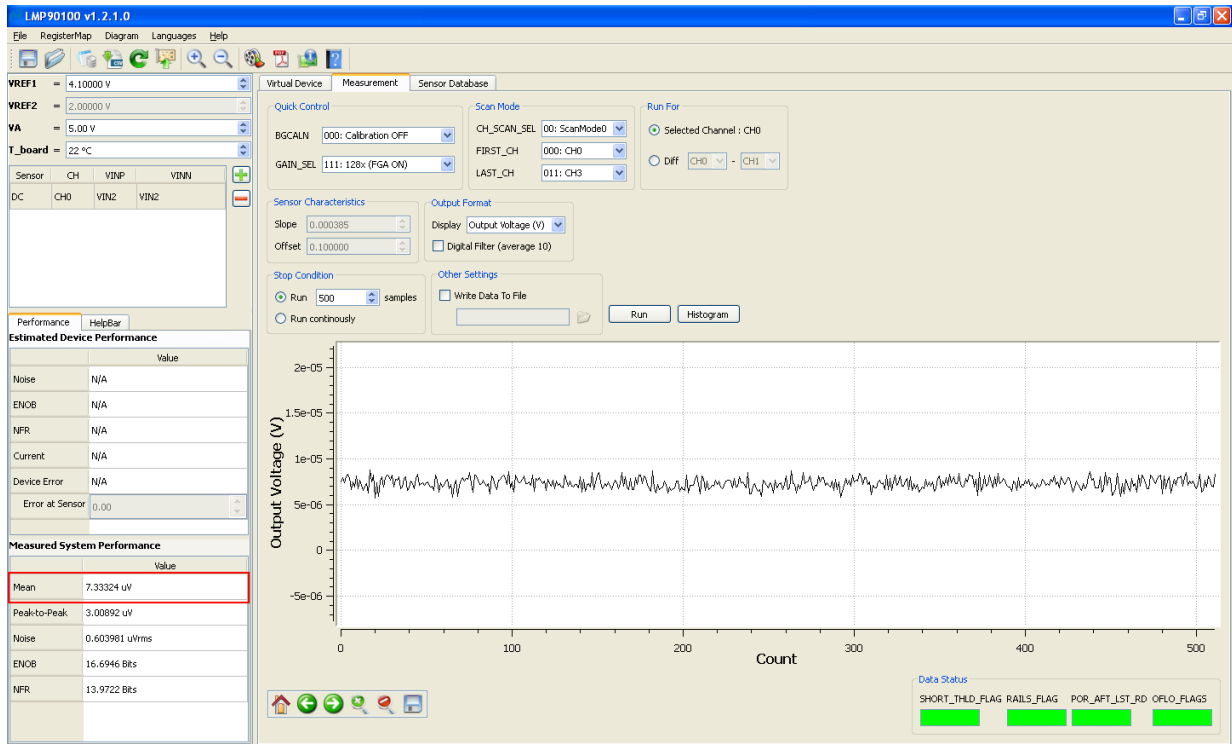

Figure 11 - Results for Shorted Input Test without Calibration
2. Under the “**Output Format**” field, select Display “**Output Voltage (V)**”
4. Click on the “**Run**” button to view the output voltage results. A reading in the hundreds of μV should be plotted similar to Figure 11.